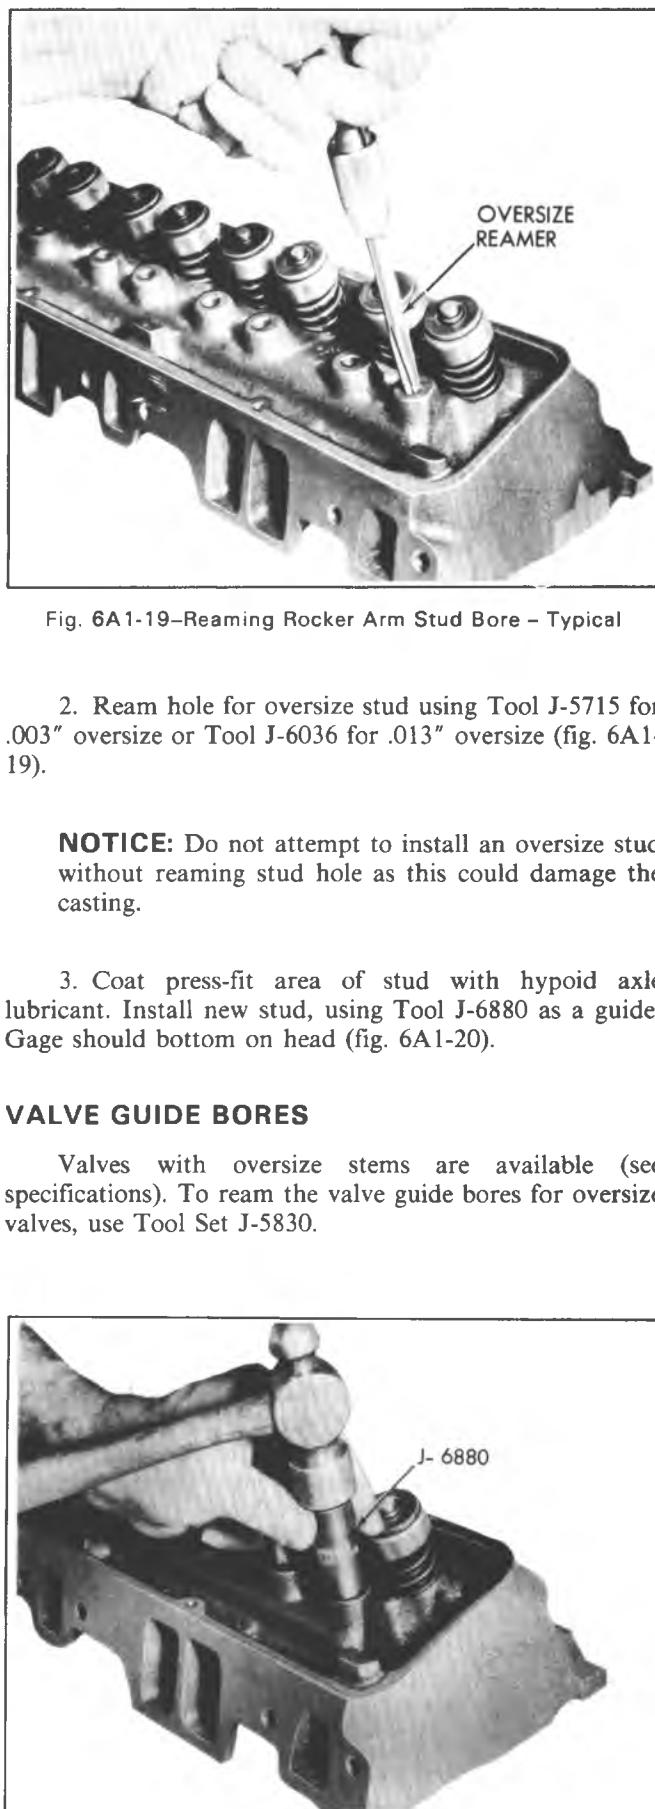

Fig. 6A1-20–Installing Rocker Arm Stud – Typical
1. Remove old stud by placing Tool J-5802-A over the stud, installing nut and flat washer and removing stud by turning nut (fig. 6A1-18).
2. Ream hole for oversize stud using Tool J-5715 for .003" oversize or Tool J-6036 for .013" oversize (fig. 6A1-19).